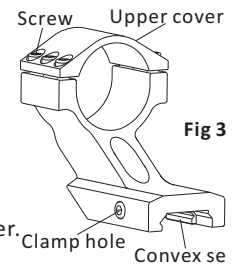

Fig 3
- The Mount bracket(Fig 3) is for connecting weapon with the sight.
(as shown in Fig3), slid the sight into the weapon rail to a right position, and finally fasten the clamp screw.